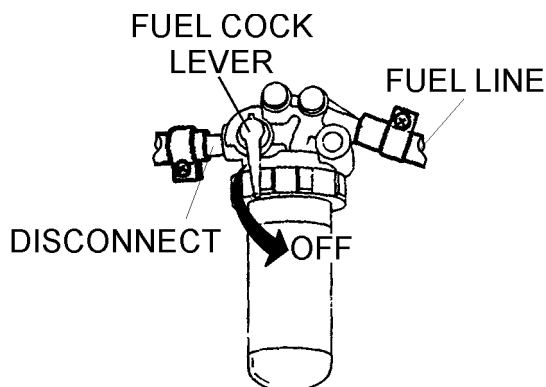

Figure 36. Fuel Cock Lever (OFF)
1. Place fuel cock lever (Figure 36) in the close position.